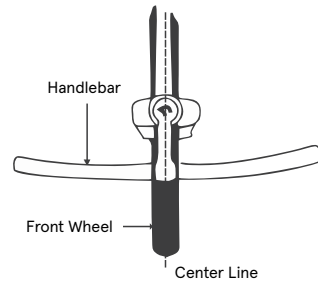

Fig. 13
2. Align the handlebar stem with the front wheel (See Fig. 13). Securely tighten the stem bolt(s). Note: Some models require a 6mm hex key. (Tightening torque: 18N.m or 14foot lbs.torque).
4. Be sure that your handlebar and stem assembly is properly tightened before riding. The handlebar and stem should not rotate in the stem up or down or in the fork from left or right. (**Fig. 13**)